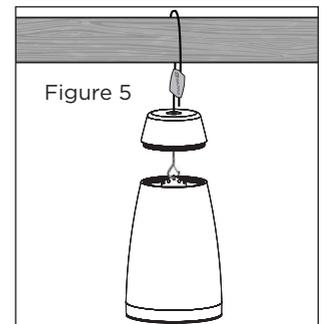

Figure 5
4. With speaker supported, snap main support hook hanger onto the center hole in the top bracket of the speaker. Adjust to proper height by pulling cable through either end of Gripple (see Figure 5).